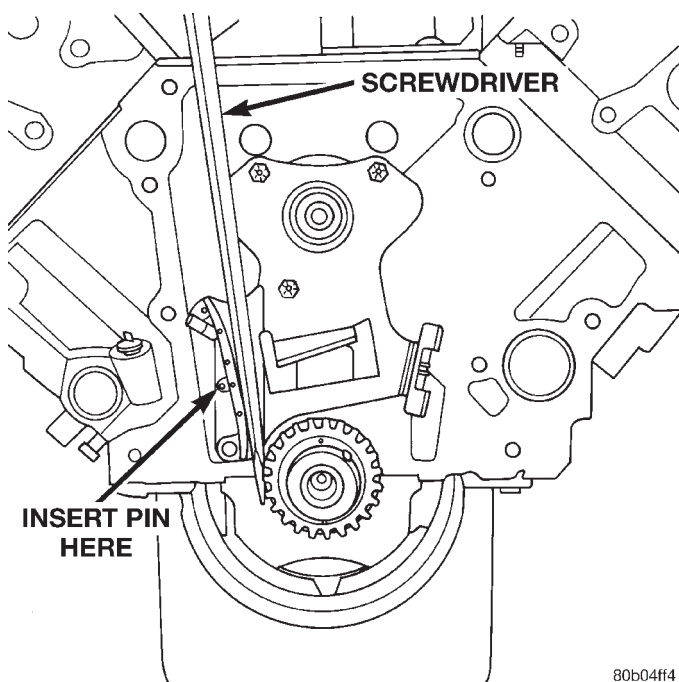

Fig. 29 Compressing Tensioner For Chain Installation
(6) Slip crankshaft sprocket onto crankshaft and compress tensioner shoe by placing a large screwdriver between crankshaft sprocket and tensioner shoe (Fig. 29). Compress shoe until hole in shoe lines up with hole in bracket. Slide a suitable pin into the holes (Fig. 29) and remove screwdriver.
(7) If tensioner assembly is to be replaced, remove the three tensioner to block bolts and remove tensioner assembly.